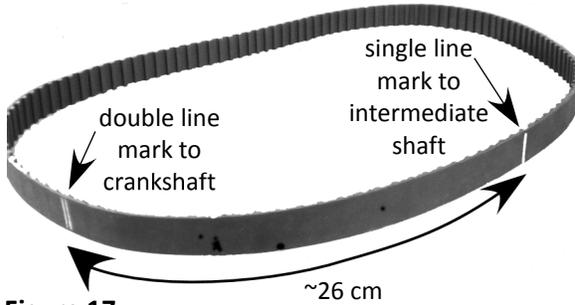

Figure 17.
Your new timing belt should have three marks: two single line marks align to the overhead camshaft and intermediate shaft respectively while the double line mark aligns to the crankshaft. The closest single line mark to the double line mark is that for the intermediate shaft, as shown in **Figure 17**.
3. Pull the belt up and around the intermediate shaft pulley and align the single line mark to the dot on the wheel and background nub at 3:00 per **Figure 18B**. This single line mark is about 26 cm from the double line mark (**Figure 17**). [It helps to mark the front edge of the belt adjacent to the line, as shown in **Figures 18A and B**.]